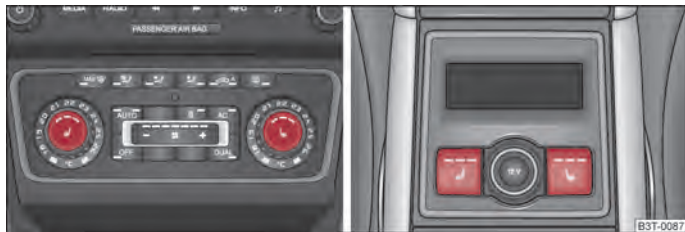

Fig. 64 Dash panel: Regulator for heating the front seats/rear seats
- You can switch on and regulate the seat heating of the driver or front passenger seat by pressing the surface of the regulator at the point at which the symbol is located → fig. 64 - left.
- You can switch on and adjust the heaters of the left or right rear seats by pressing the regulator → fig. 64 - right.